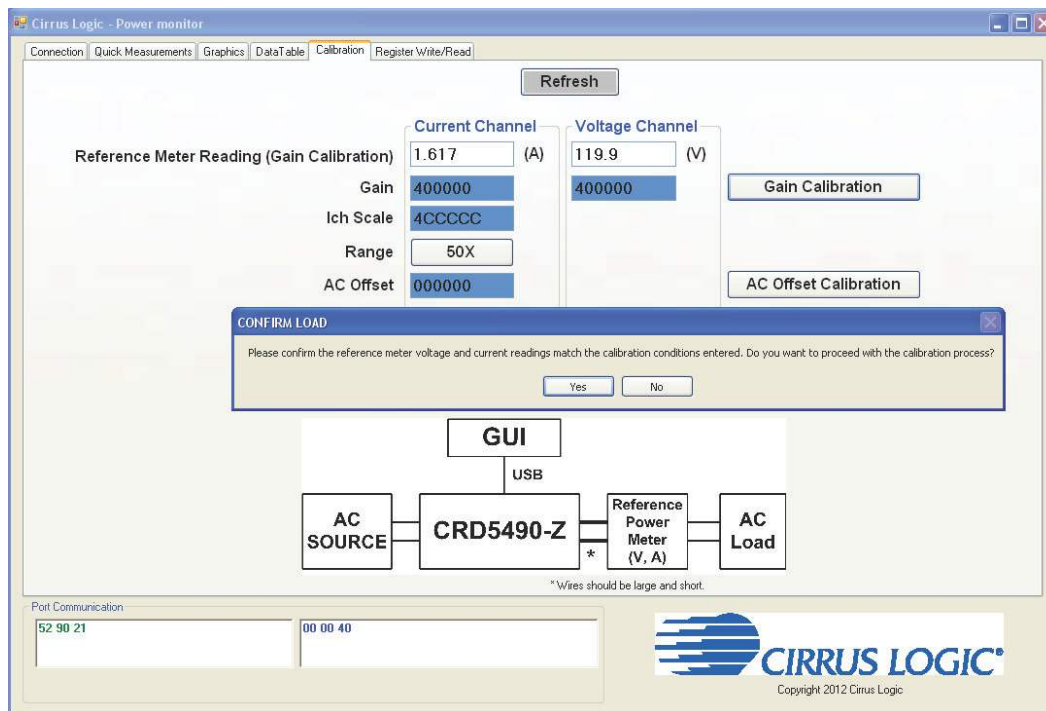

Figure 19. Calibration Tab with Confirmation Message
10. A confirmation message is displayed, as shown in Figure 19.